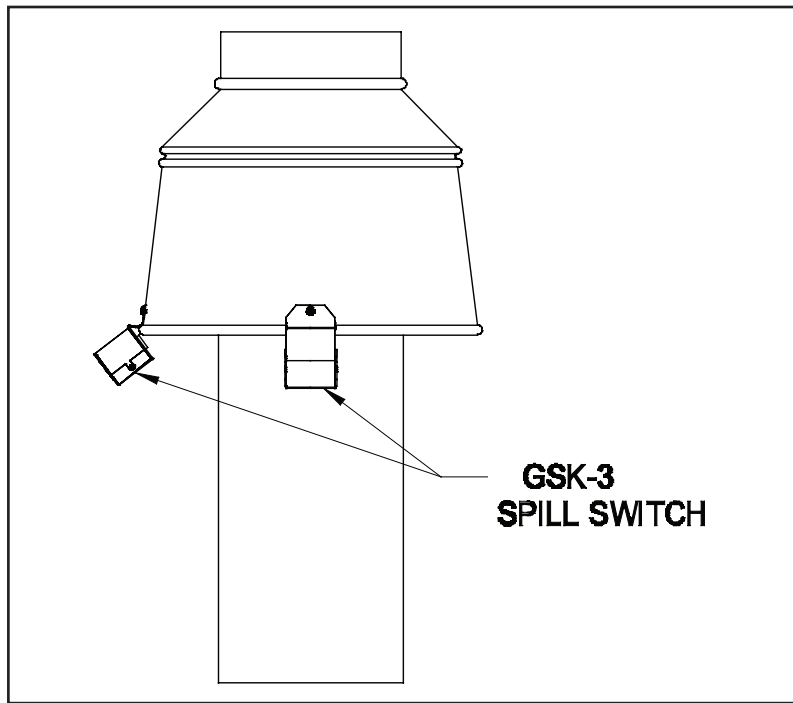
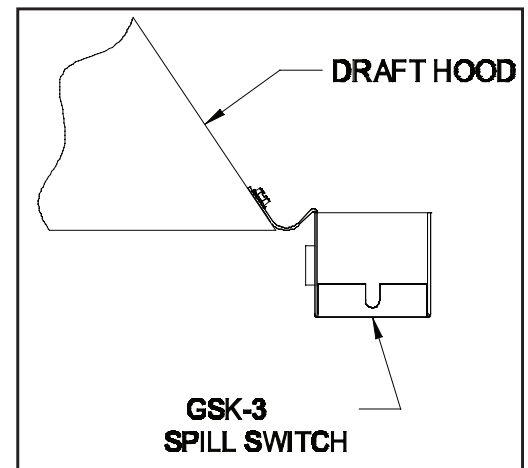

Figure 5
Figure 13
(See Figures 5 & 6 or Figure 13 for water heaters)
1. Two (2) switches are recommended on appliances without a factory supplied spill switch. Mount the spill switch onto the bottom edge of the draft hood and the second switch (if used) approximately 90° from the first switch or 90° from the factory supplied switch. (See Figure 5)
3. Mount the two (2) spill switches onto the draft hood so the switches do not contact any metal. (See Figure 13)